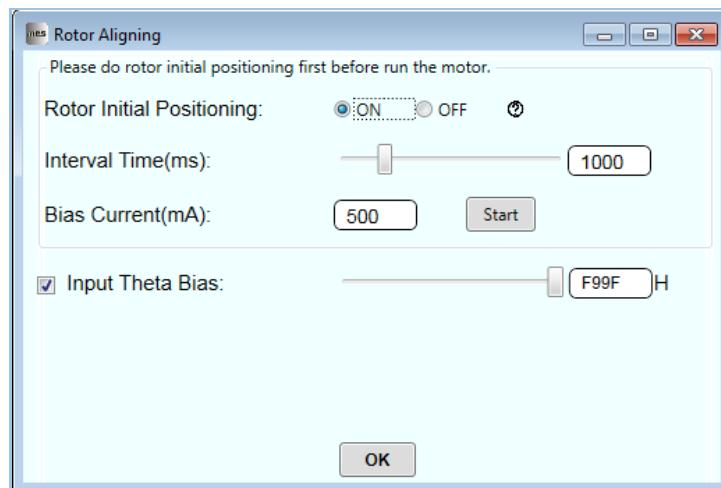

Figure 10: Rotor Aligning Window
- Navigate to the “Rotor Aligning” window from the home page (see Figure 10). Turn on the auto theta bias function.